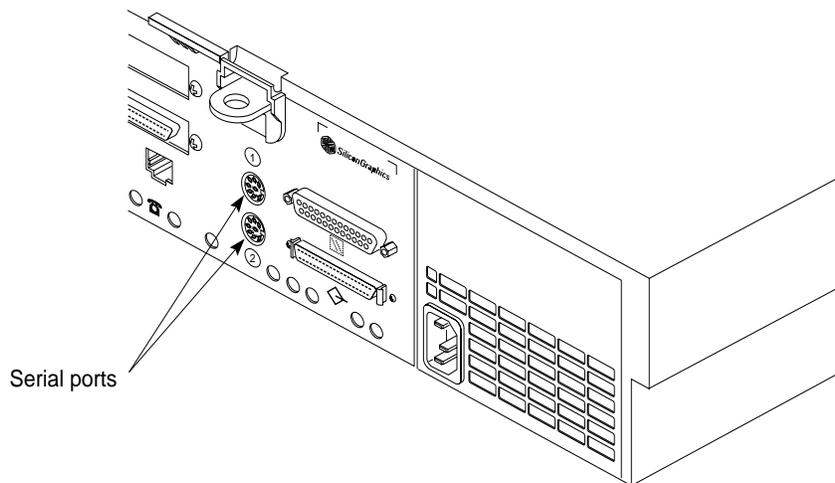

Figure 6-10 Serial Ports on the Rear of the Challenge S Server
2. Locate the serial ports on the back of the Challenge S server, as shown in Figure 6-10.
3. Attach the connector on the other end of the cable to the second serial connector on the server’s I/O panel (see Figure 6-10).